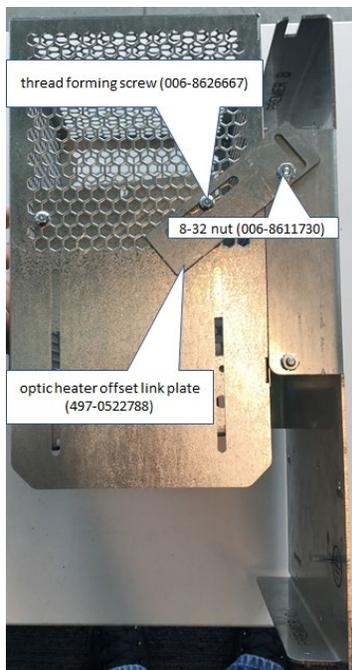

Figure 125
**Note:** The NCR heater and wire guard (497-0522796) assembly should be mounted on the power supply assembly bracket inside the dispenser in the following configuration. See Figure 125.